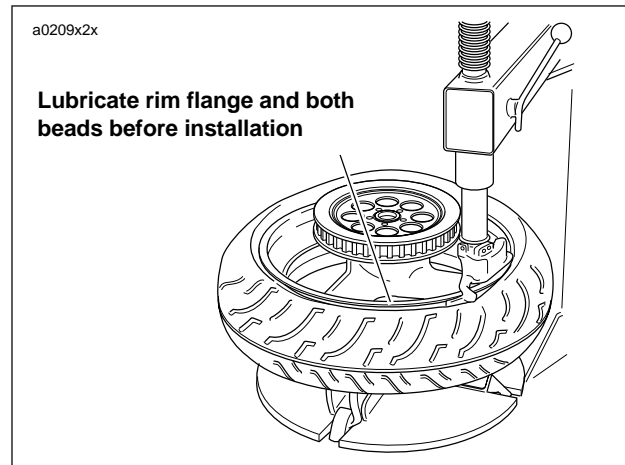

Figure 2-22. Starting Bead on Rim (Typical)
4. See Figure 2-22. Starting at the valve stem, start first bead into the rim well using a bead breaker machine. If no machine is available, work bead on as far as possible by hand. Use a tire tool to pry the remaining bead over rim flange.